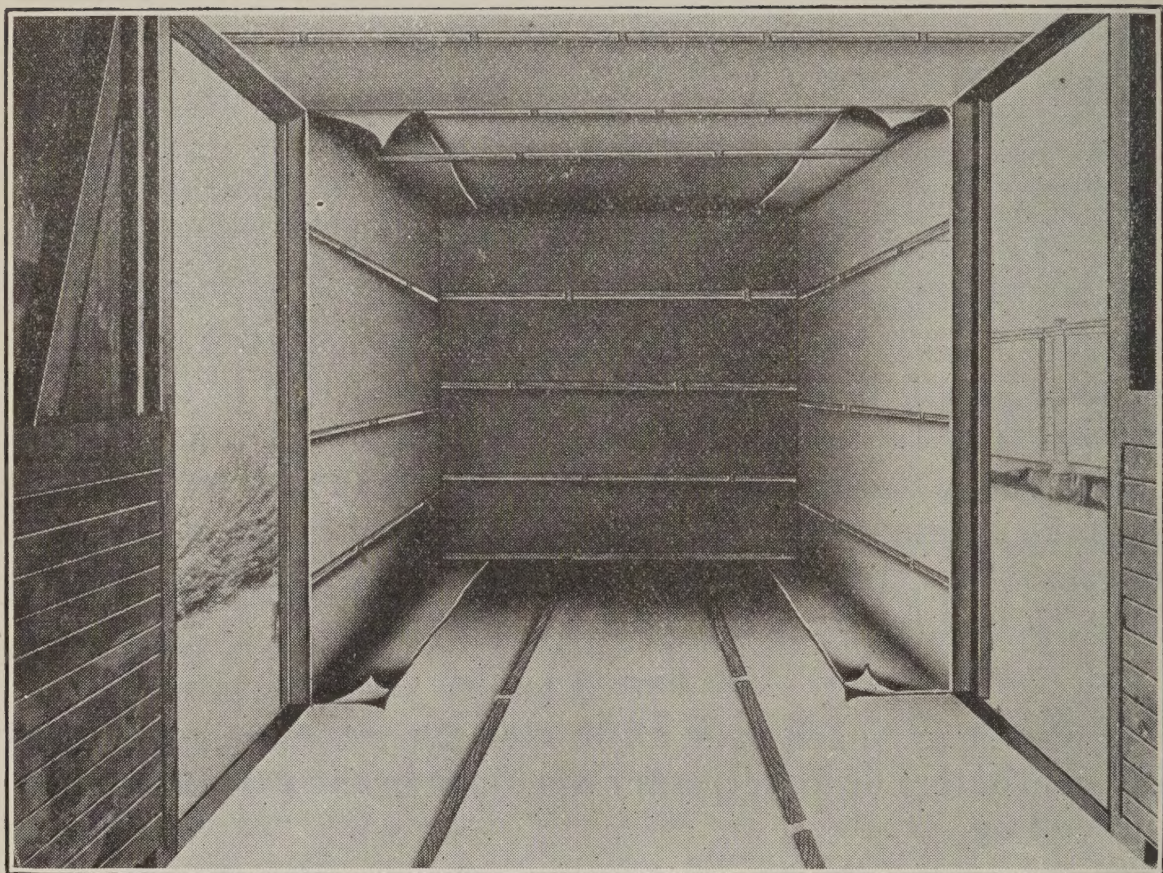

FIG. 2.—Properly papered box car. The ceiling, floor and walls of box cars should be papered before installing the false floor and walls.
2. Paper the inside of the car ceiling, walls, and floor as illustrated in figure 2. All seams should lap not less than 4 inches. All seams on the walls should be lathed, as well as those on the ceiling when it is possible to do so. The paper on the ceiling should be held in place with laths nailed to the roof supports or to a light superstructure built in when there is nothing suitable already installed. Paper should be carefully folded over all corners and lines where the floor and walls join.